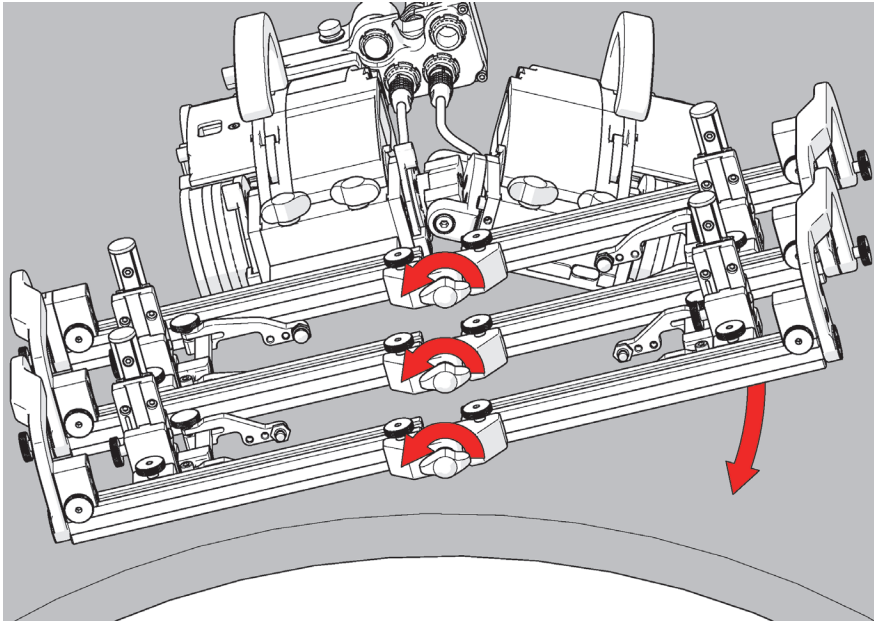

Figure 2-113 Loosen the pivot wing knobs
1. Loosen the pivot wing knobs at the center of the frame system (see Figure 2-113 on page 135).